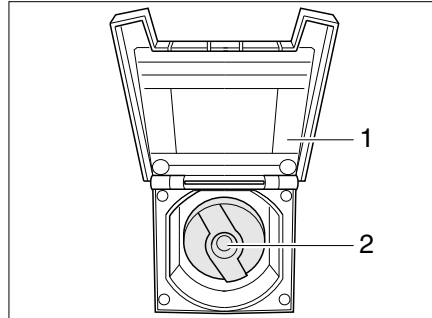

Fig. 348 Cap for the drinking water filler neck
- Open the cover flap (Fig. 348,1) of the drinking water filler neck. The cover is magnetically affixed to the outside wall of the vehicle.
- Insert key into locking cylinder (Fig. 348,2) and turn a quarter turn in an anti-clockwise direction.
- Open drinking water filler neck (Fig. 348).